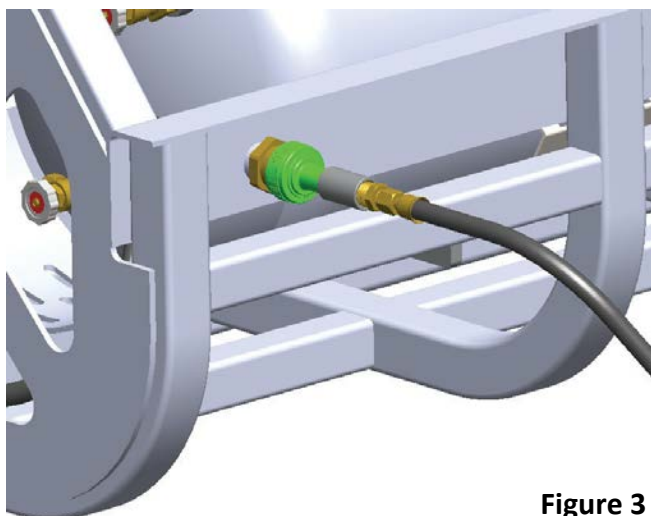

Figure 3
- 3) Connect liquid evacuation adapter to the fill connection on the tank that requires fuel. **Figure 3**